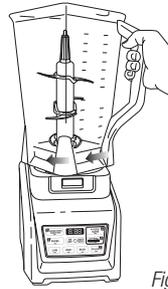

Fig. 3
**4** Rotate the pitcher clockwise until it locks in place, you will hear a click when the lock is engaged. **(Fig. 3)**
- 4 Turn the Nutri Ninja® cup upside down and place it onto the motor base, aligning the tabs on the cup with the motor base. Rotate the Nutri Ninja® cup clockwise until it locks in place, you will hear a click when the lock is engaged. (Fig. 3)